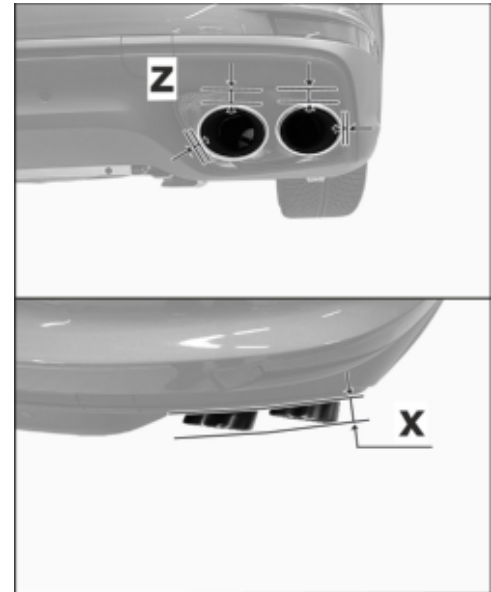

Figure 7
- 3.2 Check that the gap = "dimension Z" between the new sports tailpipes and exhaust system cover (rear bumper – left and right side of vehicle ⇒ *Figure 7 -Z-*) is symmetrically constant.
- 3.3 Check that the sports tailpipes have equal projection = "dimension X" with respect to the rear body panel (left and right side of vehicle ⇒ *Figure 7 -X-*). Re-align sports tailpipes if necessary.